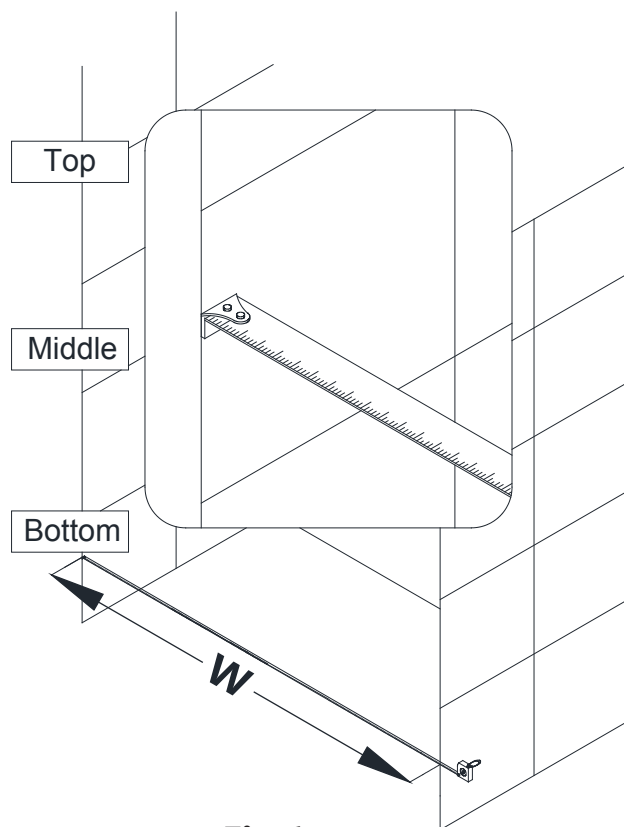

Fig 1
1. Measure the distance between the two finished walls at the top (at model height: 58" or 72"), middle and bottom. The wall profiles will adjust for out-of-plumb conditions, so **use the smallest measurement as the "finished opening"** dimension to determine the finished cut length in Step #2. **(Fig 1)**